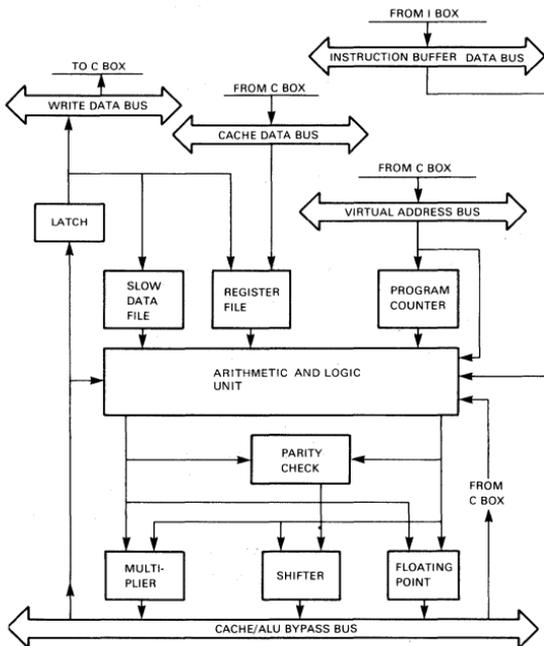

Figure 2-10 ■ Execution Box Block Diagram
The execution (E) box receives data from the Ibox and the Cbox, processes the data and returns the data to the Cbox. Figure 2-10 shows a block diagram of the Ebox.